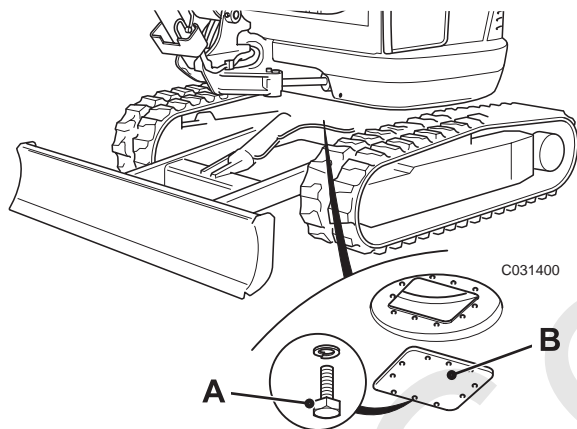

Fig 74.
- 3 Remove bolts **A** and plate **B** in the underside of the undercarriage. ⇒ Fig 74. \(□ 208\)